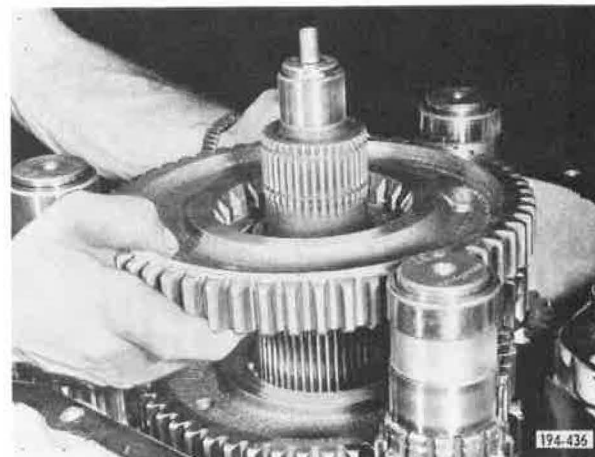

Figure 5-641. Installing First Speed Gear
14. Apply a light coat of grease to front face of first speed gear hub, then place first speed gear thrust washer on front face of gear hub. Install first speed gear (clutch teeth to the rear) with thrust washer and engage with countershaft first speed gear. See Figure 5-641.